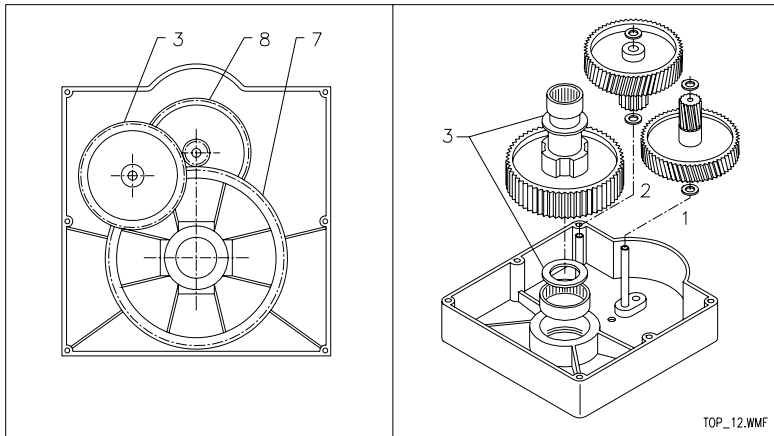

FIG. 13
- 1) Insert the shim washers in positions 1-2-3 (FIG. 13).
- 2) Insert the stiffened helical gear FIG. 13 Ref.8 Z=87, considering that the gear pinion must be turned upwards.
- 3) Insert the shaft with straight-cut gear on the hole, FIG. 13 Ref.7 Z=54.
- 4) Insert on the side shaft, the helical gear FIG. 13 Ref.3 Z=46, considering that the straight cut pinion must be turned downwards.